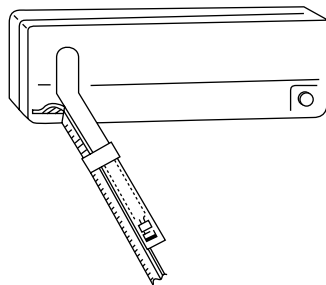

Fig. 3-5 Abb. 3-5
(1) In case of drawing the refrigerating pipe to the backside of unit, fix the refrigerating pipe, drain hose and connecting cords with the vinyl tape at several spots. Attach the holder of refrigerating pipe to the back of unit certainly. (Fig. 3-5)